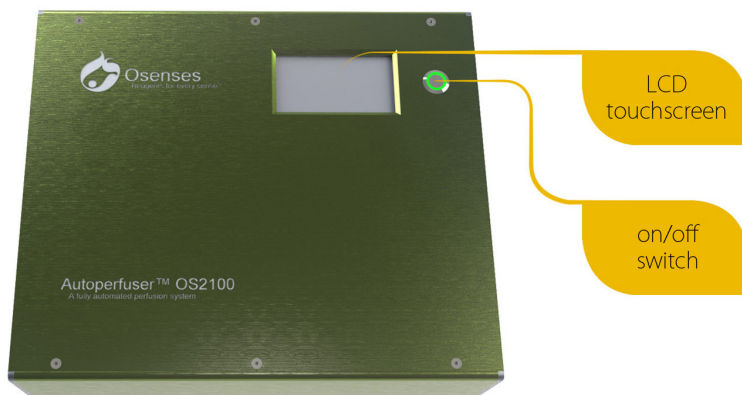

Figure 5. Front side of the Autoperfuser™ OS2100
- Switch the power on, the LCD touchscreen panel will be lit shortly thereafter (Figure 5).